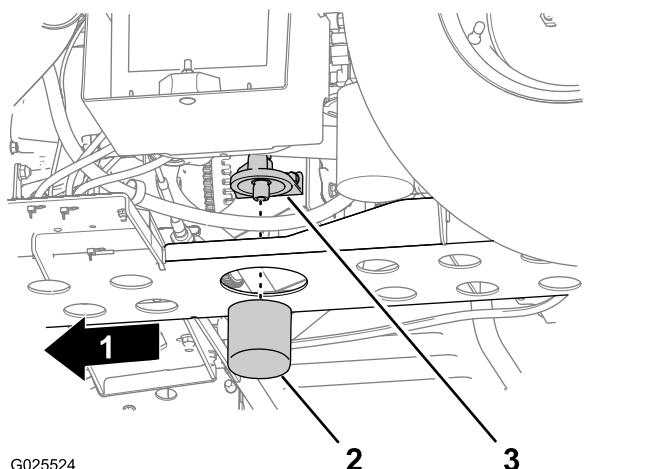

Figure 45
5. Remove the oil filter from the filter adapter (Figure 45).
6. Wipe clean the sealing base of the filter adapter (Figure 45).
8. Install the filter until the gasket contacts the sealing base of the filter adapter, then tighten the filter clockwise and additional 1/2 to 2/3 of a turn (Figure 45).